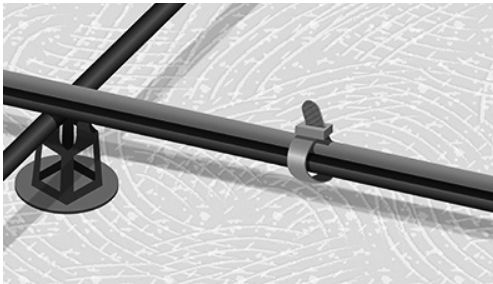

Fig. 5. Cable attached. Cable ties are loose and not on joints
6. Unroll the heating cable and fasten the heating cable to the reinforcing mesh along the way (Fig. 5).